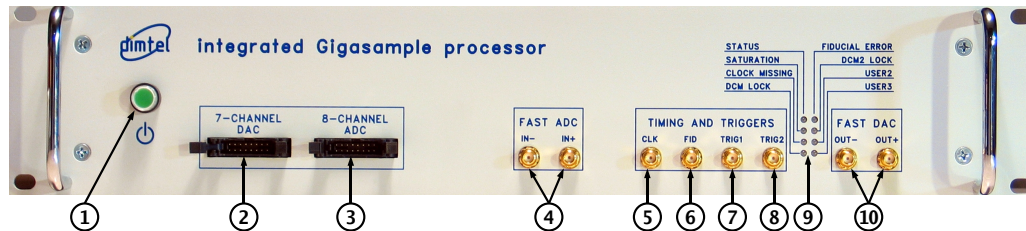

Figure 2: Front panel features
2. Connect RF clock at  $-3$  dBm nominal level (Fig. 2, item 5);
3. Connect single-ended high-speed ADC input signal to **Ain+** (Fig. 2, item 4). The FS swing of this signal should be 190 mV peak-to-peak;
4. Connect a  $50\ \Omega$  terminator to **Ain-** (Fig. 2, item 4);
5. Connect high-speed DAC output(s) (Fig. 2, item 10) to the appropriate back-end unit;
9. Push the power button (Fig 2, item 1) to turn on the system;
11. Push the power button (Fig 2, item 1) to turn the system off;
- Connect the 16-pin ribbon cable between the 7-channel **DAC** (Fig. 2, item 2) and the 8-channel **ADC** (Fig. 2, item 3);
- Connect 509 MHz clock to the **RF** clock input (Fig. 2, item 5);
- Terminate Ain- fast **ADC** input (Fig. 2, item 4);
- Terminate Aout- fast **DAC** output (Fig. 2, item 10);